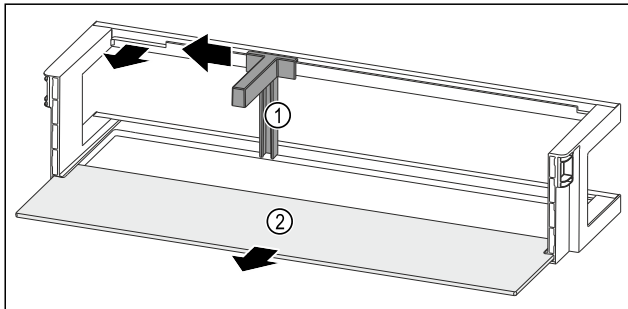

Fig. 89 Door rack with bottle holder and shelf
- ▶ Slide the bottle holder Fig. 89 (1) to the side as far as the recess.
- ▶ Remove the bottle holder Fig. 89 (1).
- ▶ Remove the shelf Fig. 89 (2).